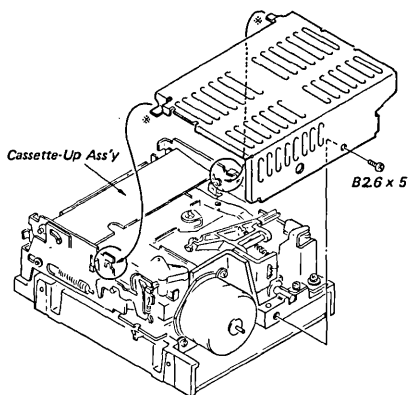

Fig. 4-5 Main Cover Replacement
- a. Remove the screw (B2.6 x 5) which fastens the main cover from the chassis ass'y, and then remove the main cover. (Refer to Fig. 4-5)
- a. Install the main cover so that the position marked is set in accordance with the arrow, and then install the main cover with the screw (B2.6 x 5). (Refer to Fig. 4-5)